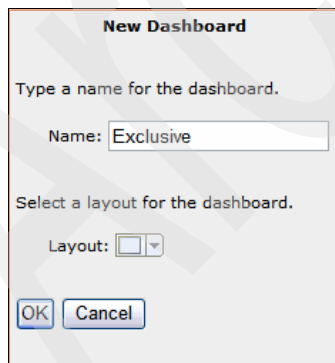

Figure 3-64 New Dashboard window
5. In the New Dashboard panel (Figure 3-64):